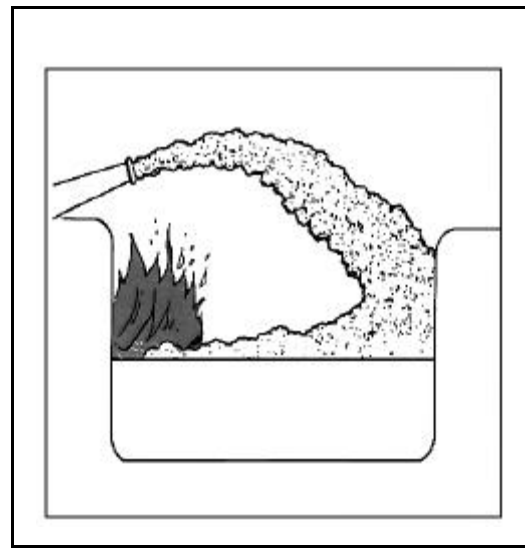

Figure 11-4. Effects of Smothering
- **Smothering.** Separates the fuel from the oxygen. This can be considered as an attack on the edge of the fire triangle where the fuel and oxygen sides meet (see Figure 11-4).